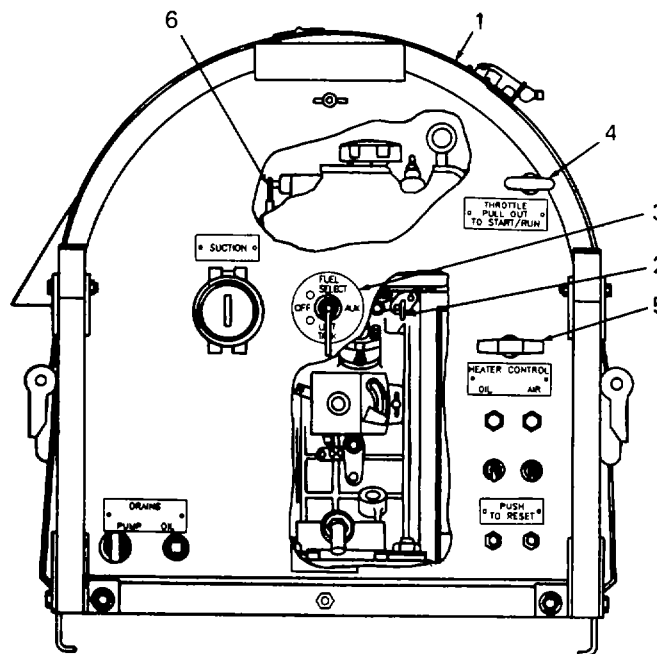

Figure 2-4. Starting Procedures
- a. *Starting.* Refer to Figure 2-4.
- (8) Hold recoil starting handle (5) firmly and pull out the handle briskly. Engine will start and go to maximum operating speed. If engine does not start on first pull, repeat steps (6), (7), and (8).
- (9) After 3 minutes, the pumping unit will start pumping liquid, or observe the discharge hose for impact.
- (10) Close access door (1).
- b. Adjusting Speed. Refer to Figure 2-4.
- (1) If necessary, adjust speed control handle (4) to desired speed and pumping rate by twisting to unlock. Twist handle to lock in speed control.
- (2) Move speed control handle (4) in to decrease speed and out to increase speed.
- c. Stopping. Refer to Figure 2-4.